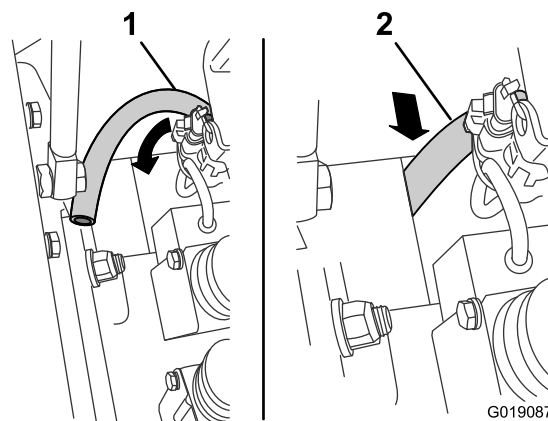

Figure 55
4. Wipe the end of the drain hose, pull the hose into the engine compartment, and place it in the stowed position (Figure 55).